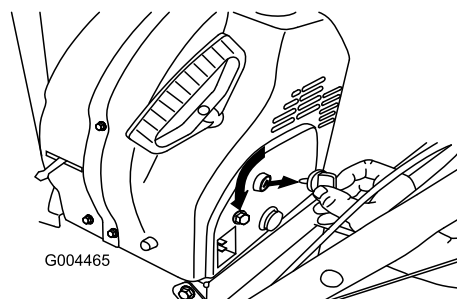

Figure 25
1. Turn the ignition key to the Off position (Figure 25).